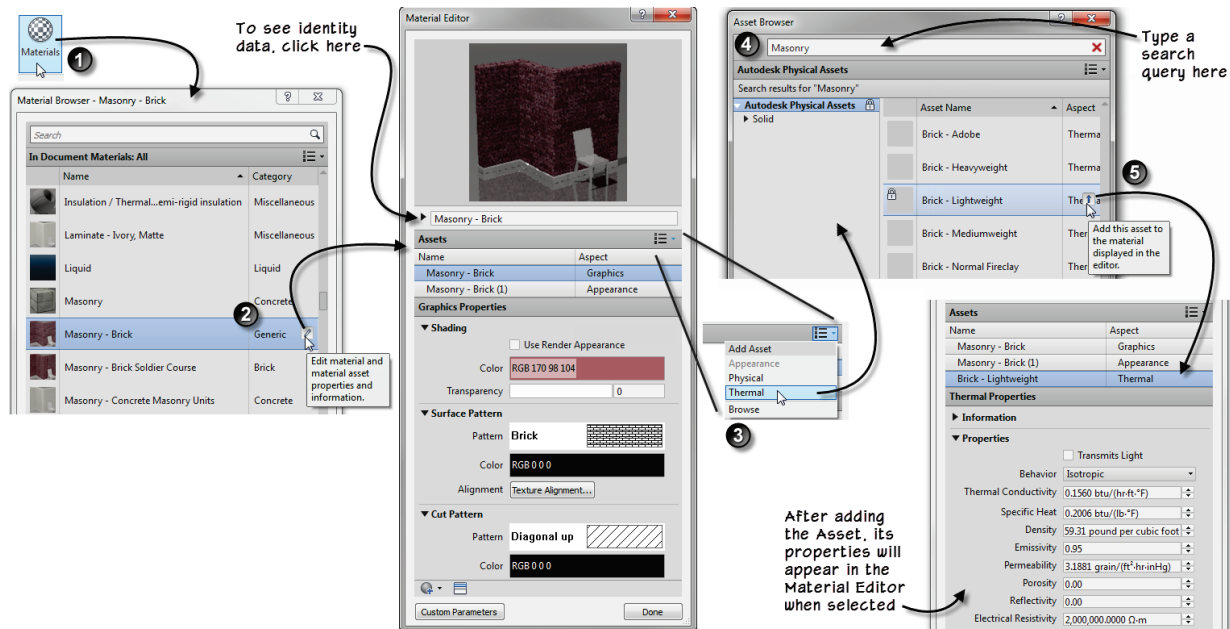

Figure 21
Keep your mouse over the selected material and note the small edit icon to the right of the selected material. Clicking this icon will open the Material Editor to edit it (see item 2 in Figure 21).
4. Click the menu icon on the Assets titlebar and choose **Thermal** (see item 3 in Figure 21)
5. In the Search field at the top, type **Masonry** and then press ENTER (see item 4 in Figure 21)
6. Locate Brick – Lightweight. As before, move the mouse over it and then click the small icon to the right to add it to the current material (see item 5 in Figure 21).